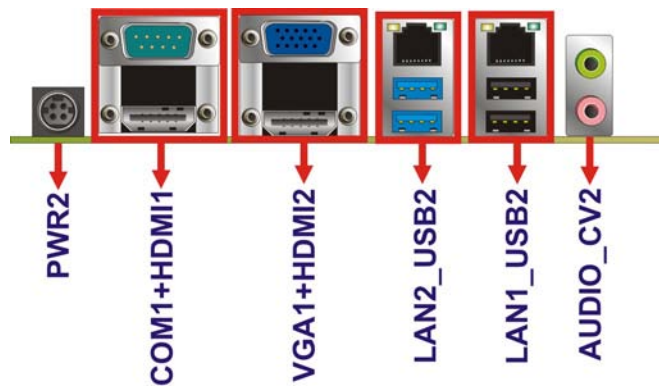

Figure 3-29: External Peripheral Interface Connector
Figure 3-29 shows the KINO-KBN-i2 external peripheral interface connector (EPIC) panel. The EPIC panel consists of the following:
CN Location: See **Figure 3-29**
CN Location:	See Figure 3-29
- CN Location: See **Figure 3-29**